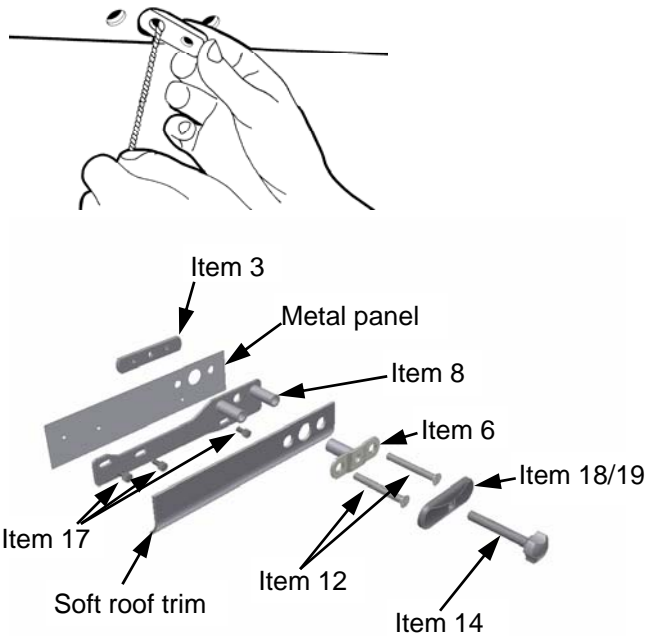

Fig 17
3. Slide the cover plate assembly Item 8 centre hole over the end of the installation tool Item 21 making sure the spacer tubes are facing inward. Refer Figs. 17/18.
5. Slide cover plate assembly Item 6 over installation tool with spacer facing outside of vehicle as shown in Fig 17.